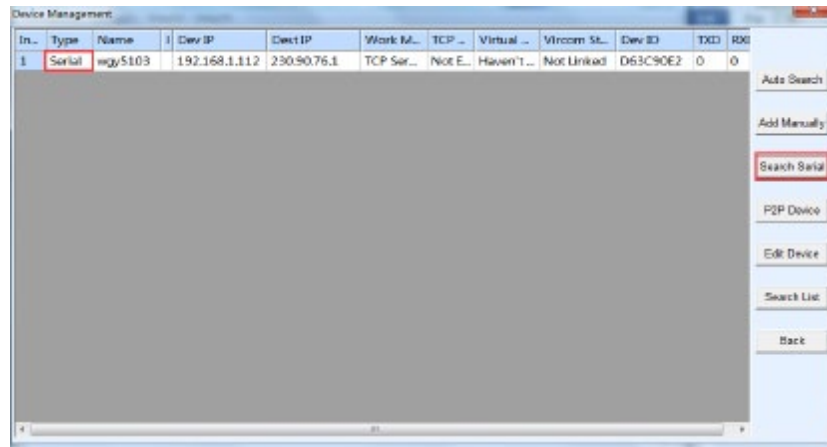

Figure 8 Serial Port Search Device
b) User doesn't have photoelectric converter, connect RS232 port of 1812 to computer serial port or USB to RS232 port. As shown in figure 8, click "Search Serial", select the serial number in the pop-up dialog box, no need to select baud rate, and click ok. ittelecom searches for 1812 through a serial port, the device will be listed in the list after being searched out, the type is "Serial". Then click "Edit Device" to enter the configuration of the device parameters.